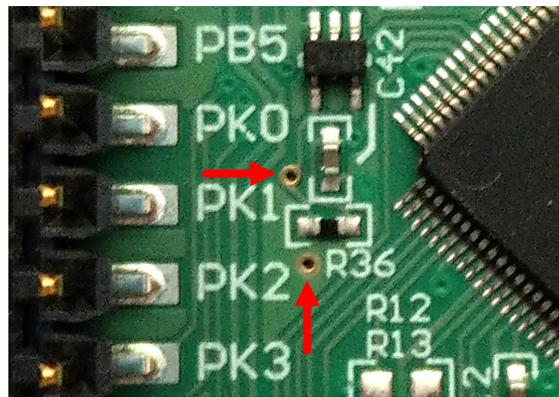

Figure 2. Test Points Used to Enter DFU Mode Manually
- Short the two test points near PK1 and PK2 of the header pins (shown in Figure 2) with a pair of tweezers (or wire) while pressing the RESET button.